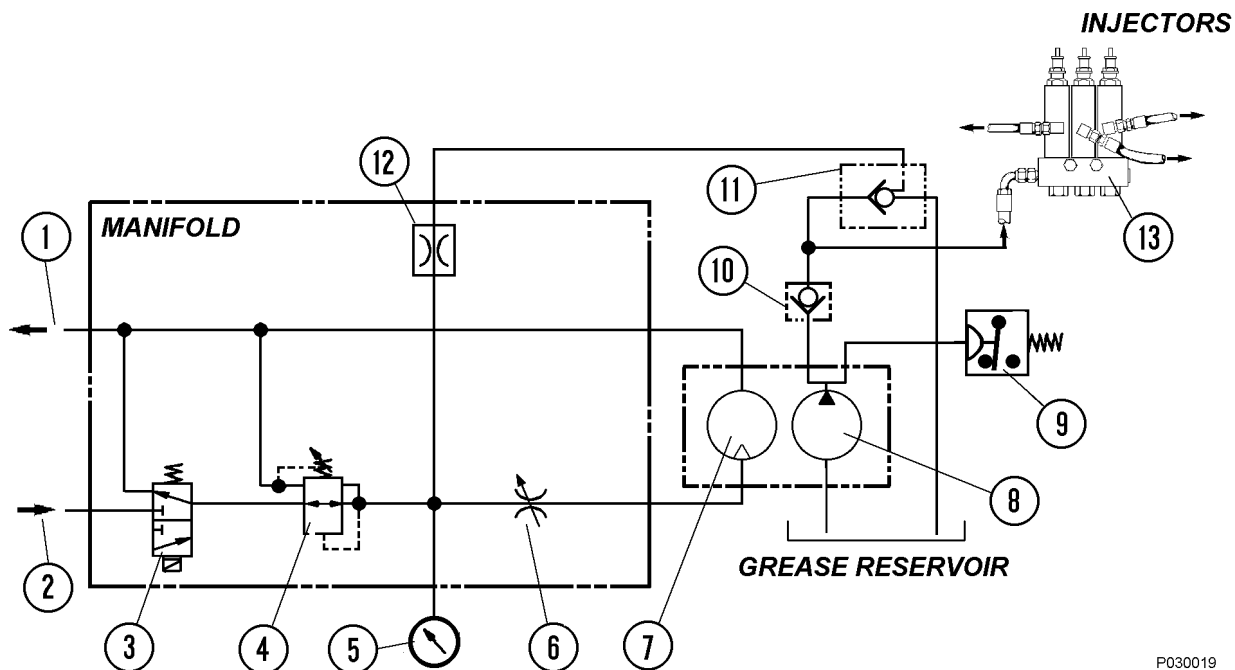
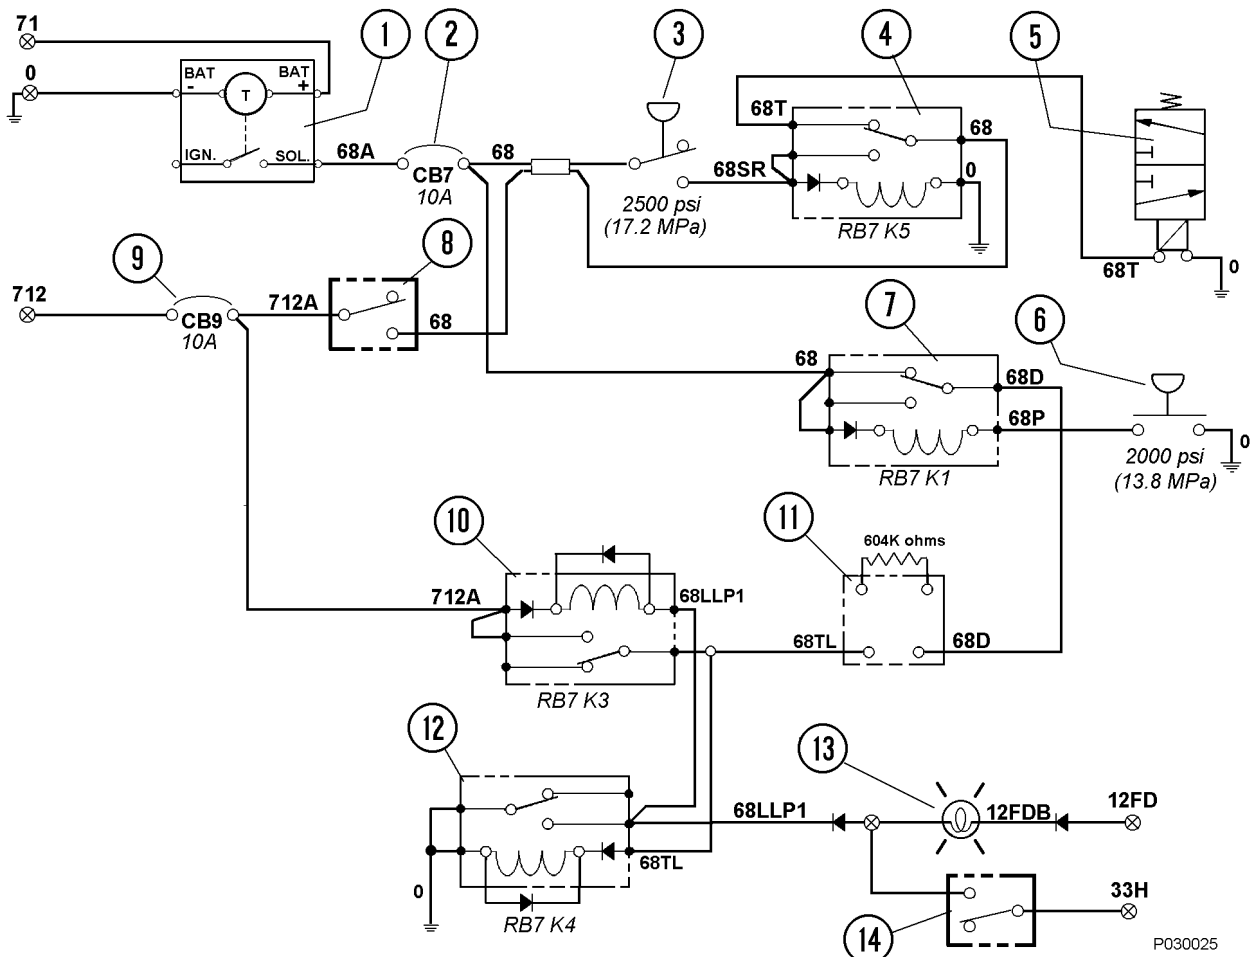

FIGURE 4-4. HYDRAULIC SCHEMATIC
FIGURE 4-5. ELECTRICAL SCHEMATIC
Lubrication Cycle Timer (1, Figure 4-5)
Delay Timer (11, Figure 4-5)
1. During truck operation, the lubrication cycle timer (1, Figure 4-5) will energize the system at a preset time interval.
2. The timer provides 24 VDC through the normally closed relay, RB7K5 (4) used to energize the pump solenoid valve (5), allowing hydraulic oil provided by the truck steering pump circuit to flow to the pump motor and initiate a pumping cycle.
3. The hydraulic oil pressure from the steering circuit is reduced to 325 to 350 psi (2 240 to 2 413 kPa) by the pressure reducing valve (4, Figure 4-4) before entering the motor. In addition, the amount of oil supplied to the pump is limited by the flow control valve (6). Pump pressure can be read using the gauge (5) mounted on the manifold.
4. With oil flowing into the hydraulic motor, the grease pump will operate, pumping grease from the reservoir to the injectors (13), through a check valve (10) and to the vent valve (11).
6. When grease pressure reaches the pressure switch (3, Figure 4-5) setting, the switch contacts will close and energize the relay RB7K5, removing power from the hydraulic motor/pump solenoid and the the pump will stop. The relay will remain energized until grease pressure drops and the pressure switch opens again or until the timer turns off.
1. When the lubrication cycle is initiated, 24VDC flows through relay RB7K1 (7, Figure 4-5) N.C. contacts to a 1 minute delay timer (11).
2. If the system is operating normally, grease pressure at the rear axle injector bank will rise to pressure switch (6) setting of 2000 psi (13.8 MPa) and energize relay RB7K1 (7), removing 24VDC from the delay timer.
3. If a problem occurs and the system is not able to attain 2000 psi (13.8 MPa), the delay timer (11) will energize relay RB7K4 (12) after 60 seconds, turning on the "Low Lube System Pressure" warning lamp on the overhead display. After RB7K4 relay energizes, it will energize relay RB7K3 (10).